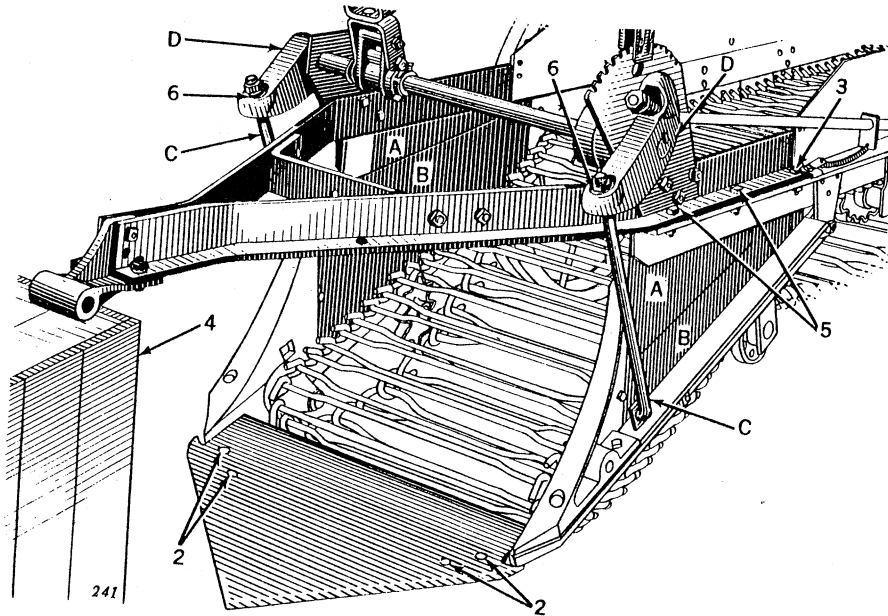

Figure 14
NOTE: The beams, shovels, front shields, and shovel lift rods are assembled the same as on the one-row as shown in Figure 14, except that on the two-row machine the double end lift arms "D" are assembled between the frames. (See Figure 1.)
2. (Figure 14) Remove the wood block from the shovel bracket and attach the shovel.
3. (Figure 14) Slide beam assembly on digger frames to proper position and attach **LOOSELY** with the rear bolts.
4. (Figure 14) Place a support under the front end of the beam.
5. (Figure 14) Slide shields "A" between the frame and beam on side of the digger.
Be sure that the shields "A" are outside of the lower shields "B." Insert the two front bolts on each side through the beam, shield "A," and frame. Before proceeding, tighten bolts at points "3" and "5," Figure 14.
6. (Figure 14) Insert lift rod "C" through lift arm "D."